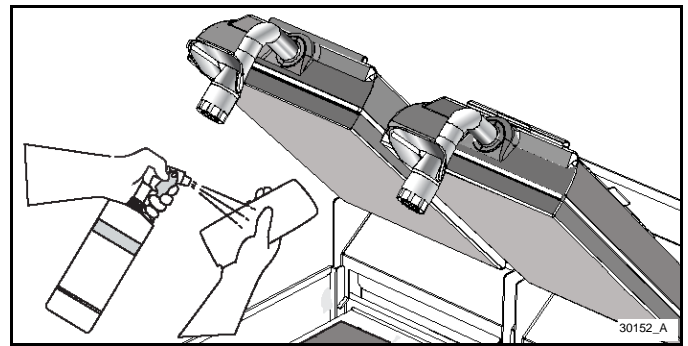

Figure-103
9. Spray a clean, sanitizer-soaked grill cloth with one spray of grill cleaner. See Figure-103.